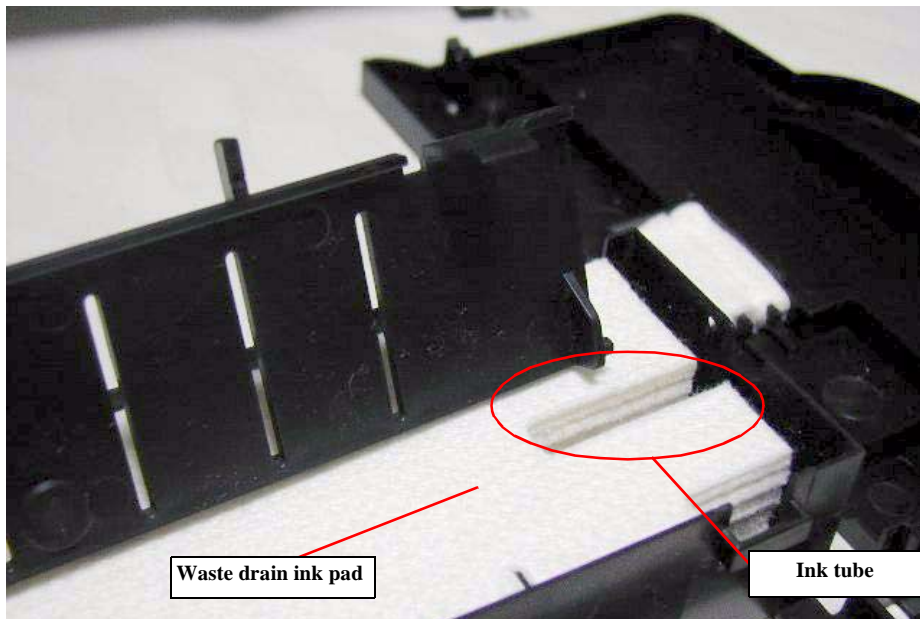

Figure 4-14. Drain ink tube setting position
- When assembling the Waste drain ink pad unit, be sure to set the tip of the waste ink tube in the suitable position of the Waste drain ink pad. Refer to the Figure 4-14.